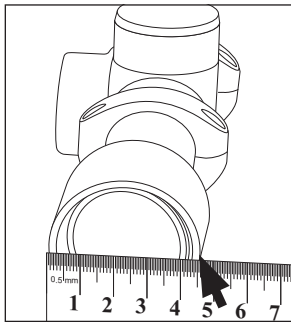

FIGURE C-1.
1. Determine your daytime scope **objective tube diameter (external - not diameter of the glass lens)** with a millimeter ruler (with a trammel for more accurate results) as shown in figure C-1.